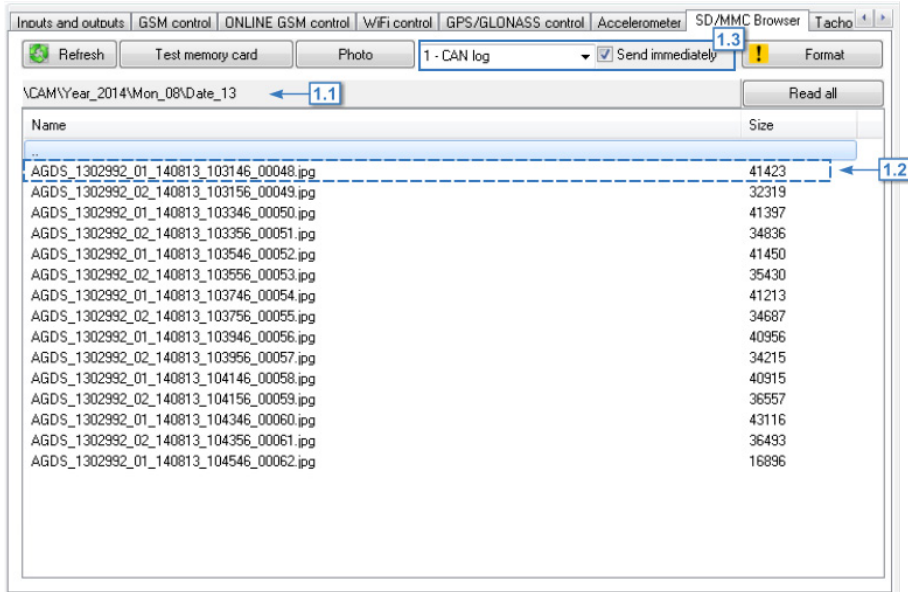

Fig.83. “SD/MMC Browser” tab.
On this tab, the user can test and browse SD card or eMMC of the AutoGRAPH device. SD card and eMMC memory are intended to store photos from cameras connected to the device and log files. To do the memory test, connect the device to a PC. Make sure that the SD card is inserted. Then, press the “Test the memory card” button (Fig.83). After finishing, the test status will be displayed in the status window of the program.
The memory content (Fig.83, i.1).
After the reading, the list of file will be displayed in the program. The path to the opened folder of the memory is displayed above the list (Fig.83, i.1.1). Pressing the path opens the folder on local hard drive containing photos files from the device memory to the hard drive.
1. Photos from camera (Fig.83, i. 1.2).
The copy of the photo will be loaded in the \SD folder in the AG.GSMConf program folder. The \SD folder has nested internal folders like the \CAM folder on the device memory. To open the \SD folder, press the path above the list of files (Fig.83, i. 1.1).
To copy a log file from the device memory on hard driver, double click the file. To copy all photos from the opened folder, press the “Read all” button. The copy of the files will be loaded in the \SD folder in the AG.GSMConf program folder. To open the \SD folder, press the path above the list of files (Fig.83, i. 1.1).
To enable the device to write log files, select the required log to write in a drop-down list on the right of the “Photo” button (Fig.83, i. 1.3):